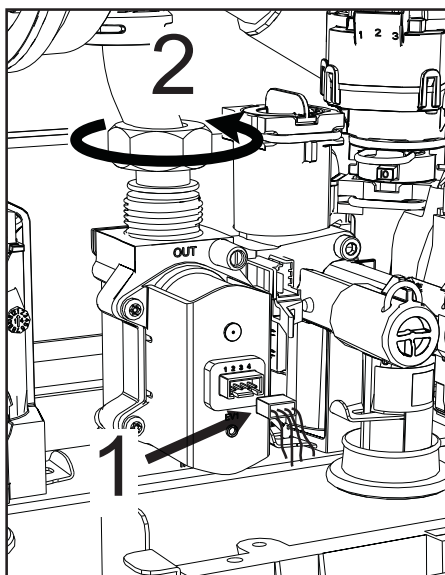

fig. 58
- Disconnect the electrical connectors “1” (fig. 58).
- Disconnect the gas supply pipe “2” (fig. 58)